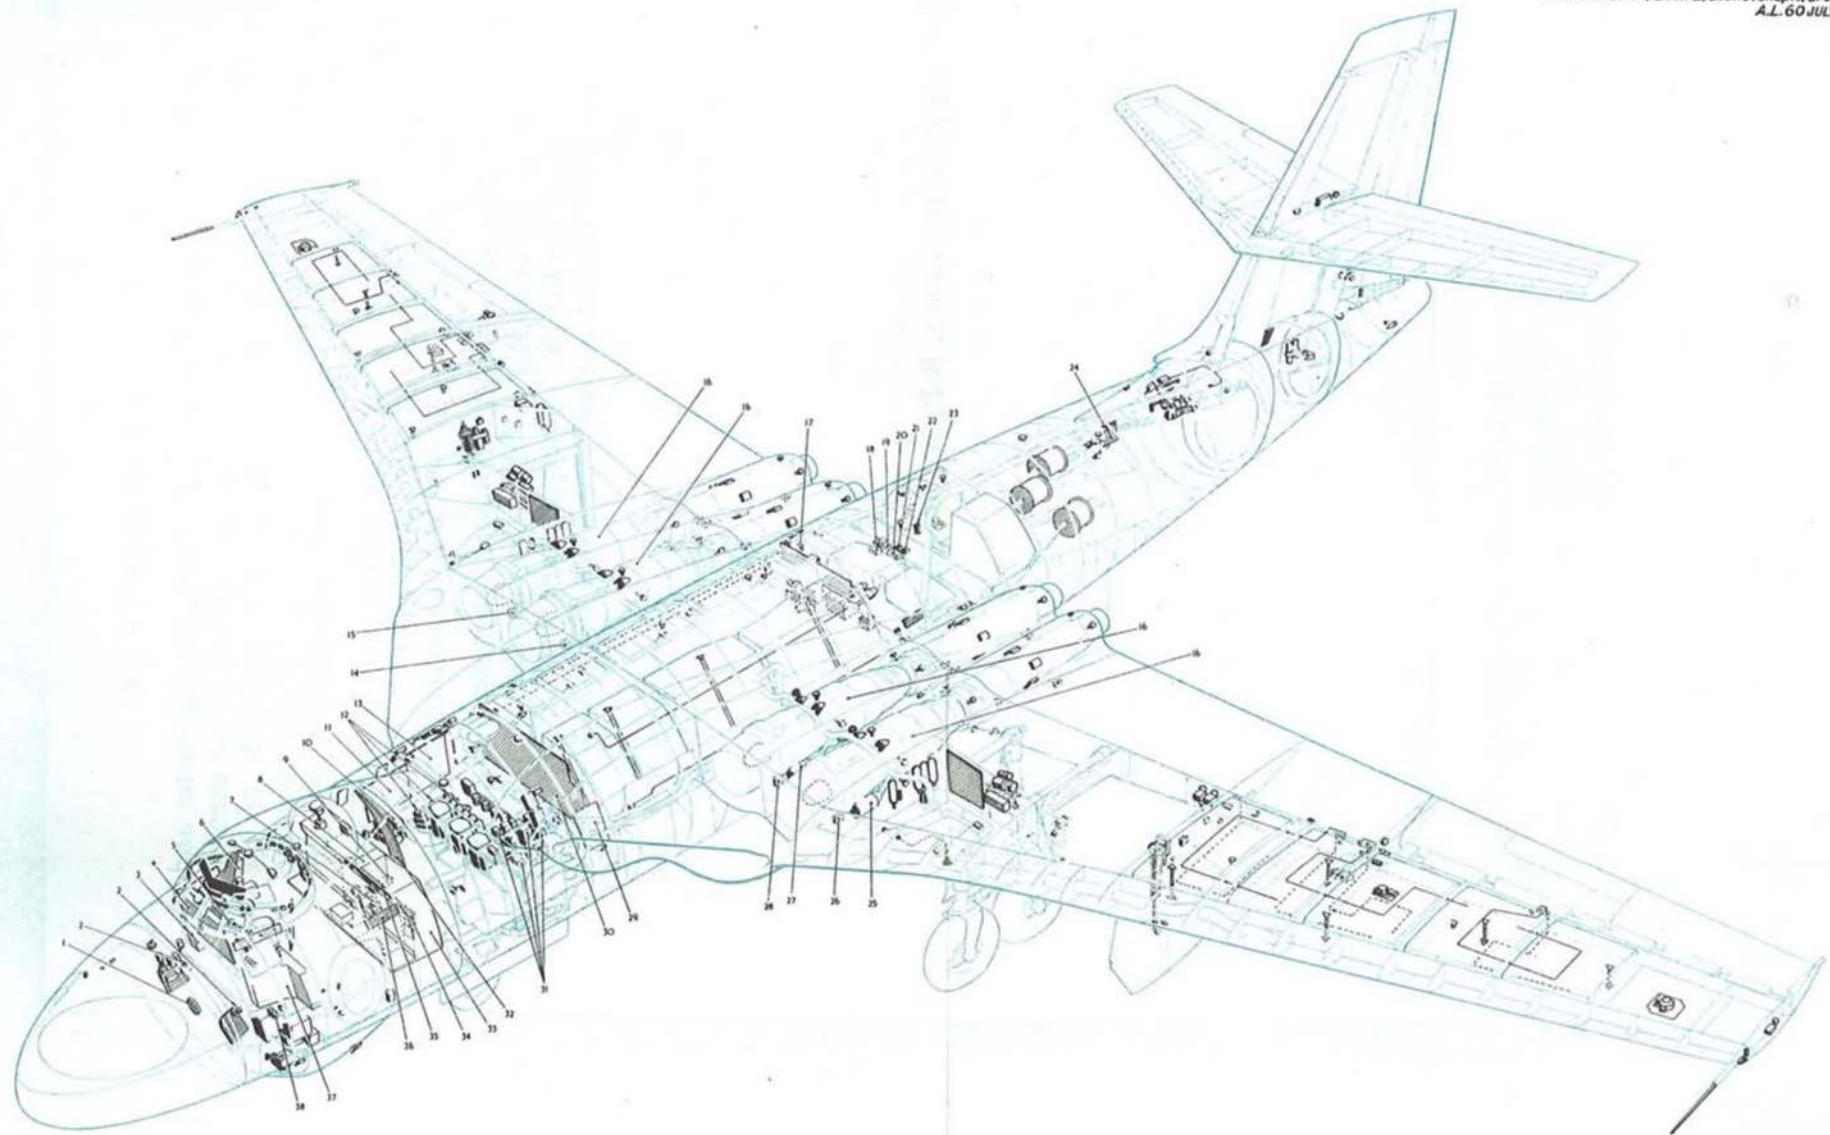

Fig.1 Location of equipment (1)
Key to fig. 1 (Location of equipment (1))